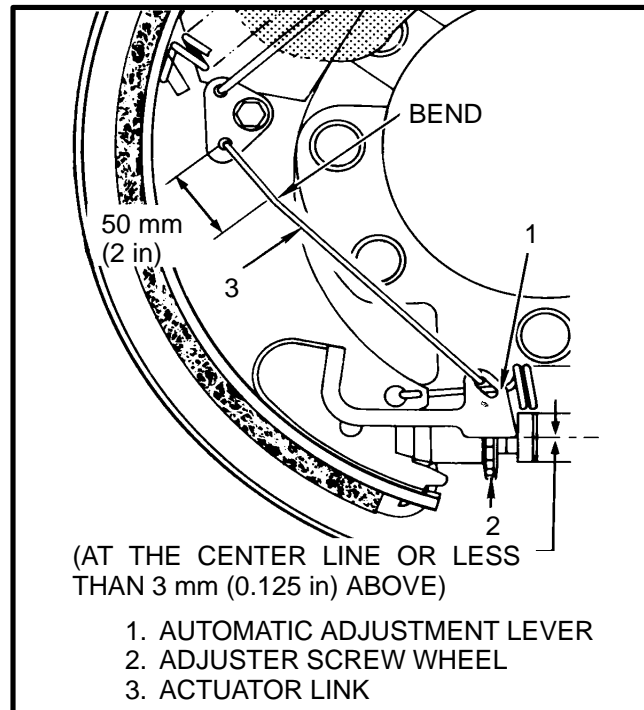

FIGURE 5. ADJUSTER LINK ADJUSTMENT
BRAKE SHOES (See FIGURE 5.)
The automatic adjuster lever (1) must be at the center-line or less than 3.0 mm (0.125 in.) above the adjuster screw wheel (2). The wrong adjustment of the lever (1) will cause too much brake pedal travel before the lever (1) can actuate the adjuster screw wheel (2). Bend the actuator link (3) as shown in FIGURE 5, so that the lever (1) is within the tolerance as shown.